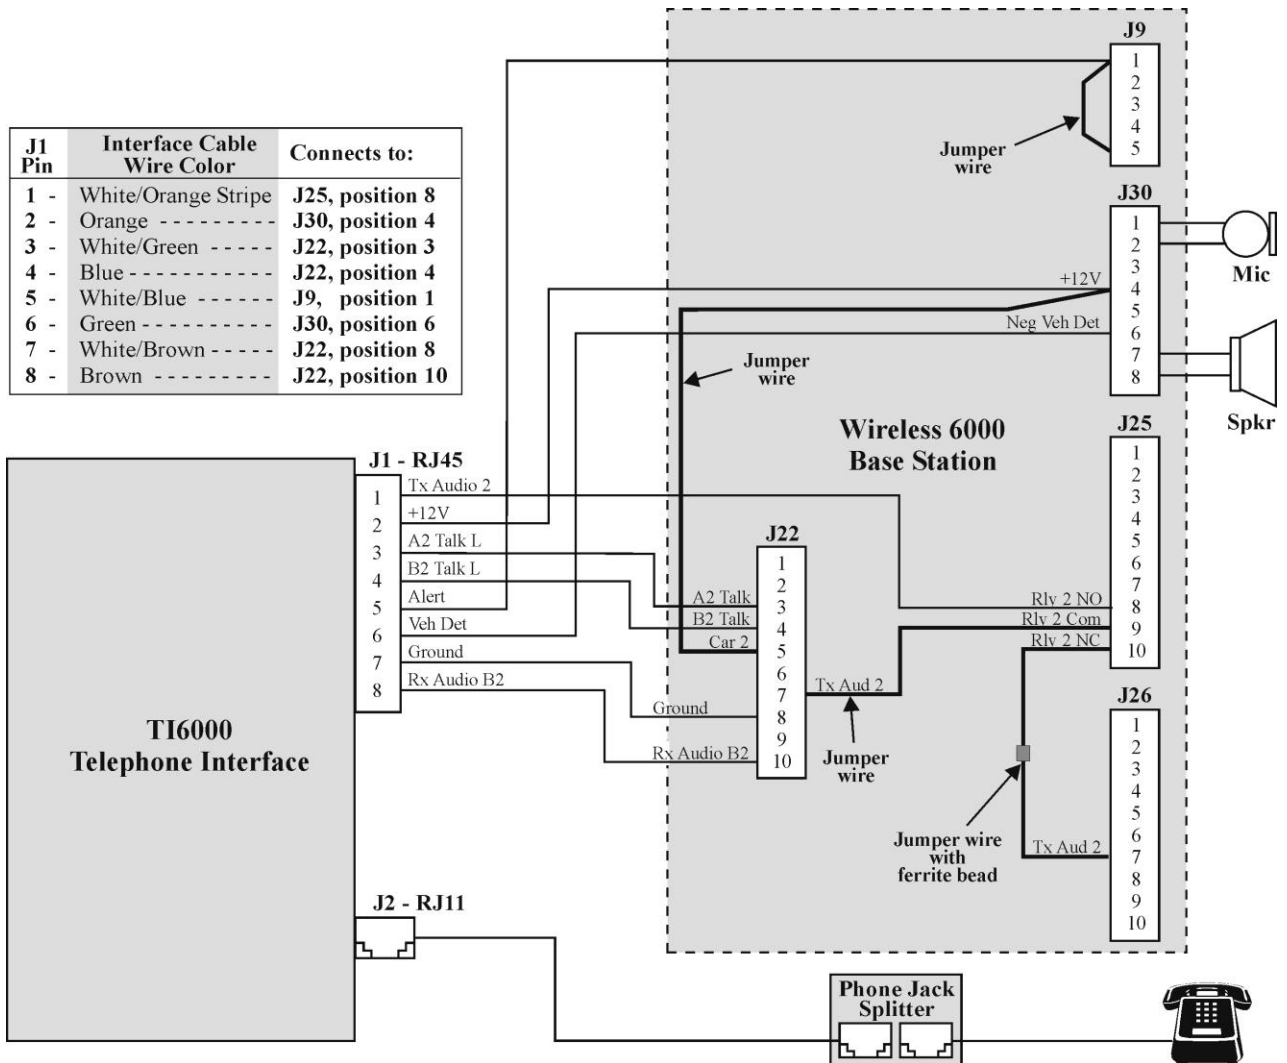

Figure 8. TI6000 wiring diagram if using the Type 2 base station interface cable
- Plug the five connectors into J9, J22, J25, J26 and J30 on the base station circuit board as shown in the wiring diagram, Figure 8. Note the labels on the connector wires. Each connector is keyed to fit into its correct position.